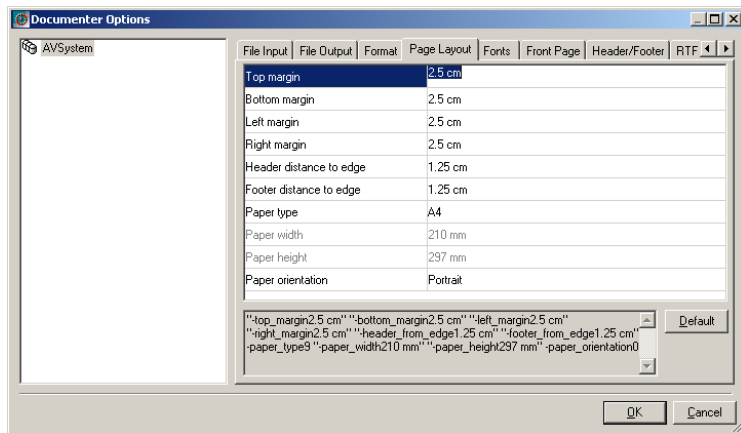

Figure 190: Documenter Options dialog box, Page Layout tab
- 1 Open the Documenter Options dialog box (as described in *General*, page 261), and click the Page Layout tab. See *Figure 190*, page 269.